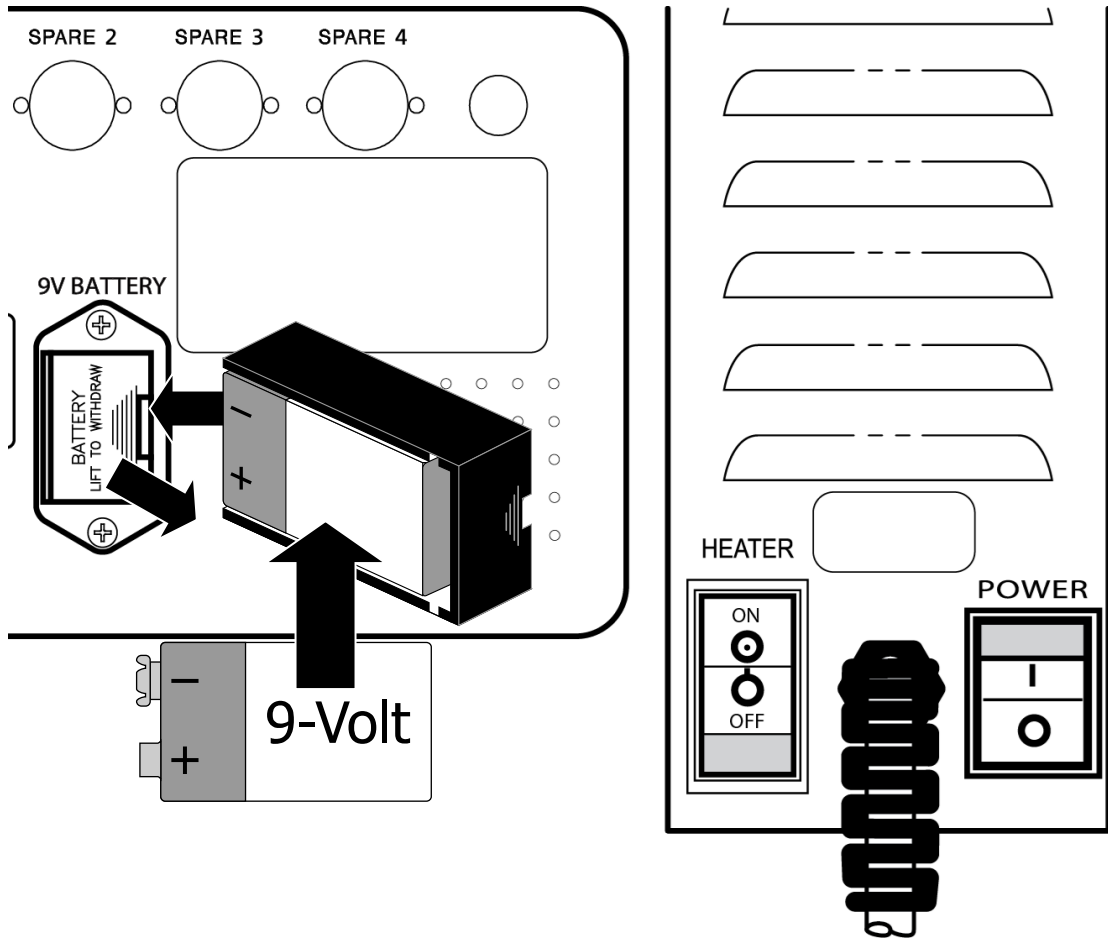

Figure 101 – Replacing the 9-Volt Battery
- Place a fresh battery in the cartridge and reinsert it back into the machine as shown in Figure 101. The negative side of the 9-Volt battery should be on top.
- Power the machine ON and, using the mains power switch on the back of the machine (see the right side of Figure 101), shut off the power to the machine. Listen for the No Power alarm, if the alarm does not sound, repeat steps 1-4.